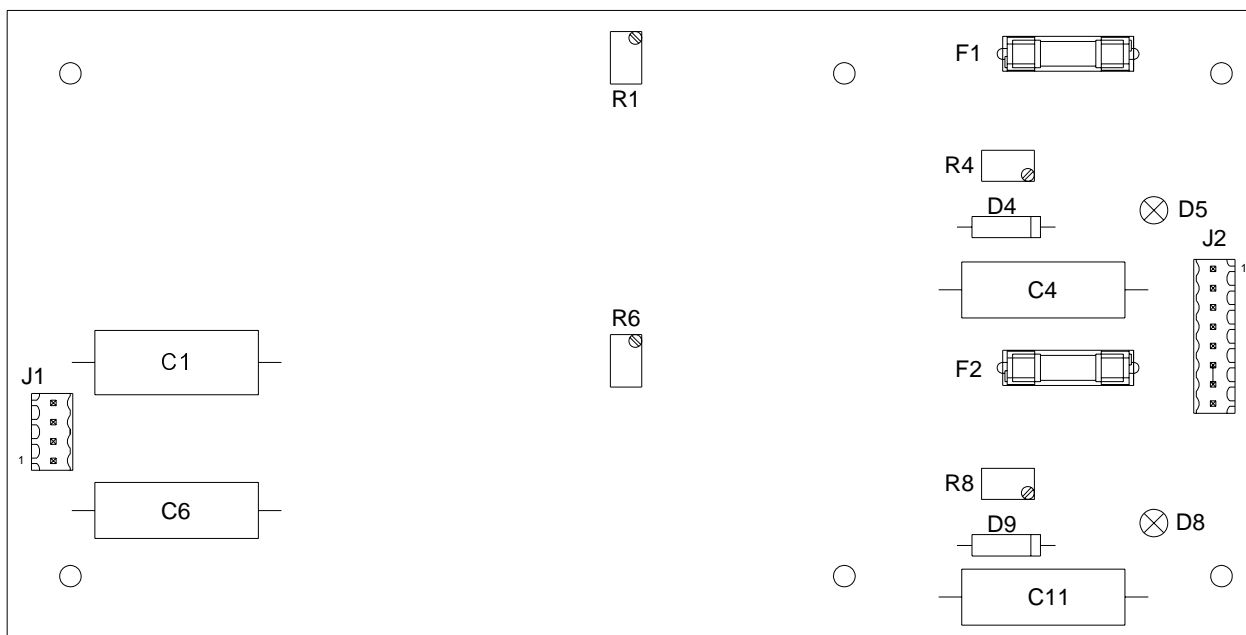

Figure 6-18
3. See Figure 6-18 and measure the voltages according to Table 6-6. Adjust only if the voltages are outside the limits of minimum and maximum.